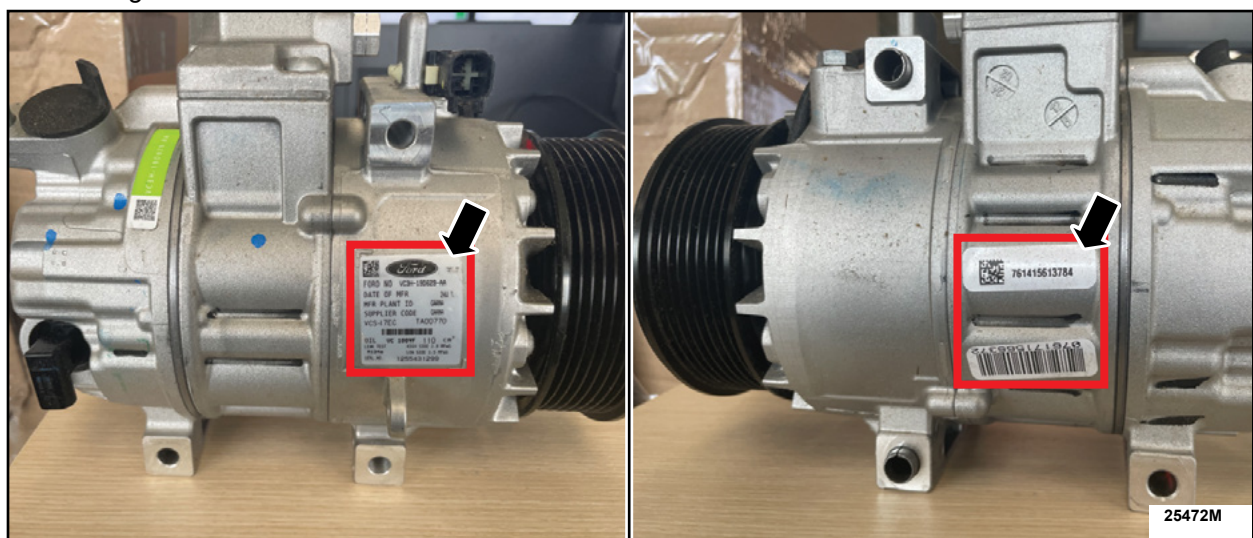

FIGURE 13
26. Take a picture of the 3 tags on the original A/C compressor and submit them with the FSA claim. See Figure 13.